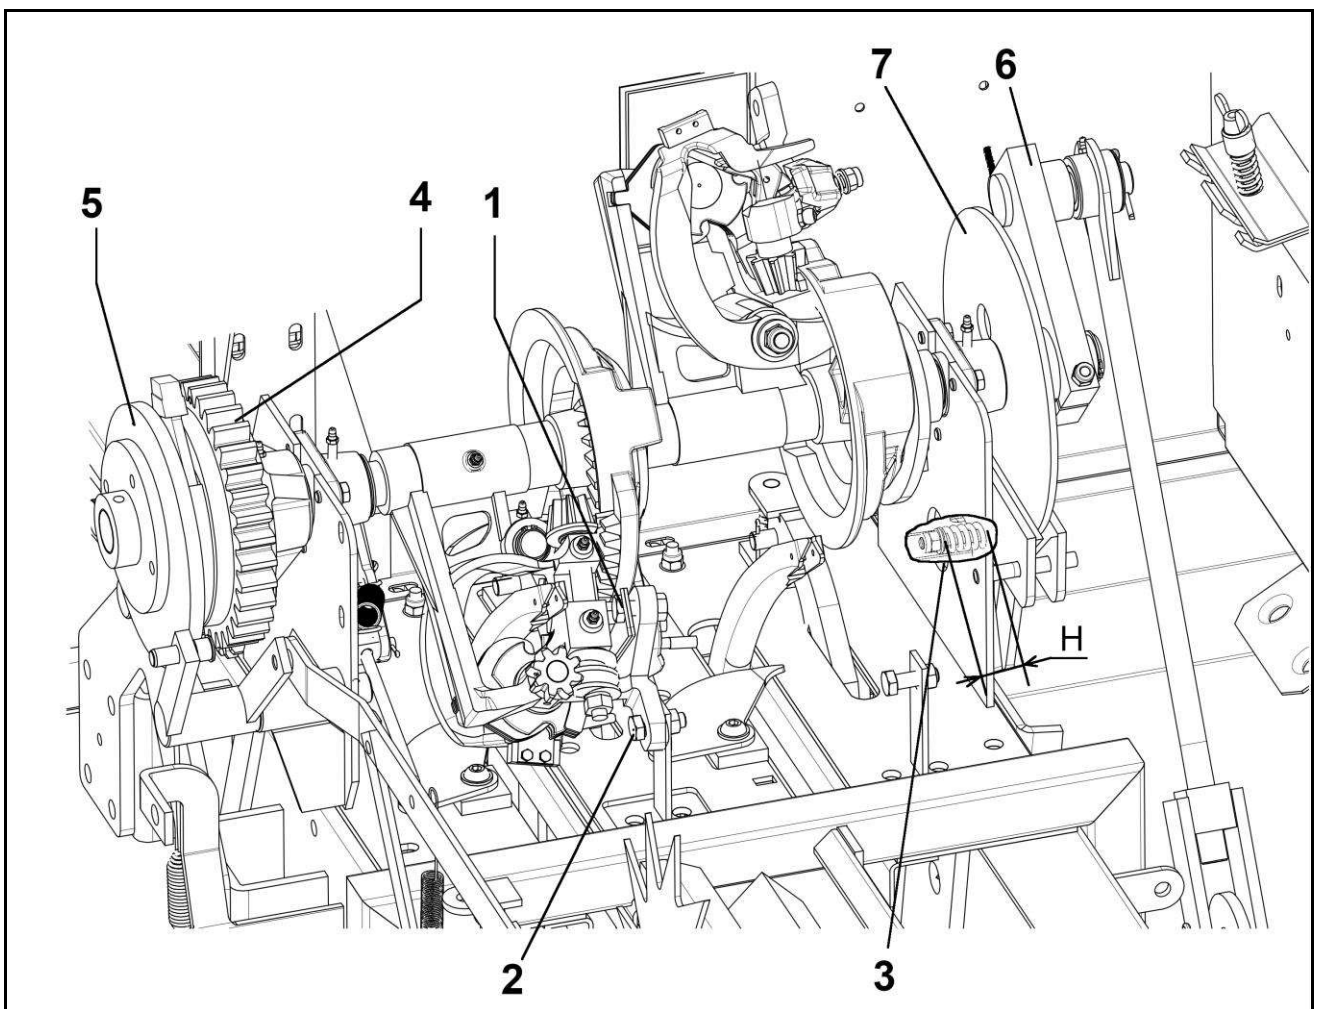

Fig. 7.11
This brake (ref. 7 Fig. 7.11) is designed to make the motion of the knotter uniform during the tying cycle and to hold it still when it is not working.
The adjustment is done by turning the adjustment screw to increase or decrease the compression on the spring 3 (Fig. 7.11). The reference measure $H = 25$ mm.